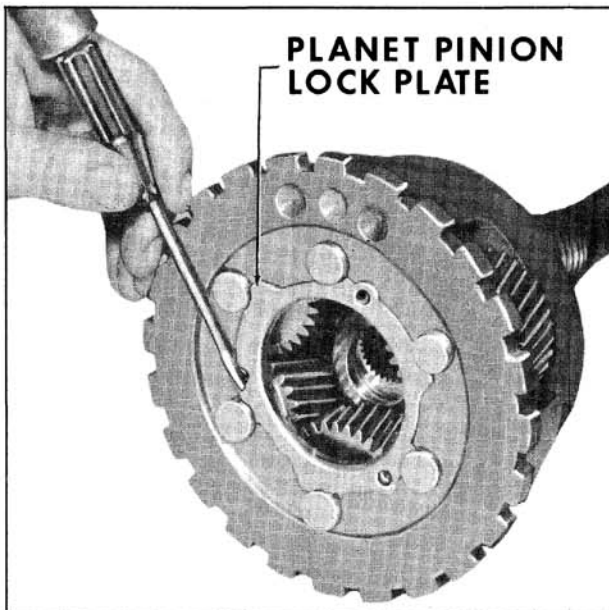

Fig. 6-476 Installing Lock Plate
12. Install planet pinion lock plate. Rotate plate so extended portions align with slots in planet pinion shafts and three attaching screw holes. (Fig. 6-476)